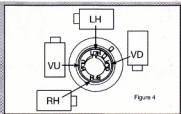

Figure 4
6. Insert the spindle through the spindle hole of the door. With the bolt retracted, carefully thread (clockwise) the spindle into the drive cam until tight. Next, rotate (counterclockwise) at least 1/2 turn until the groove in the spindle is aligned with the correct spine position. (Refer to the Spine Key Position Chart - Figure 4).